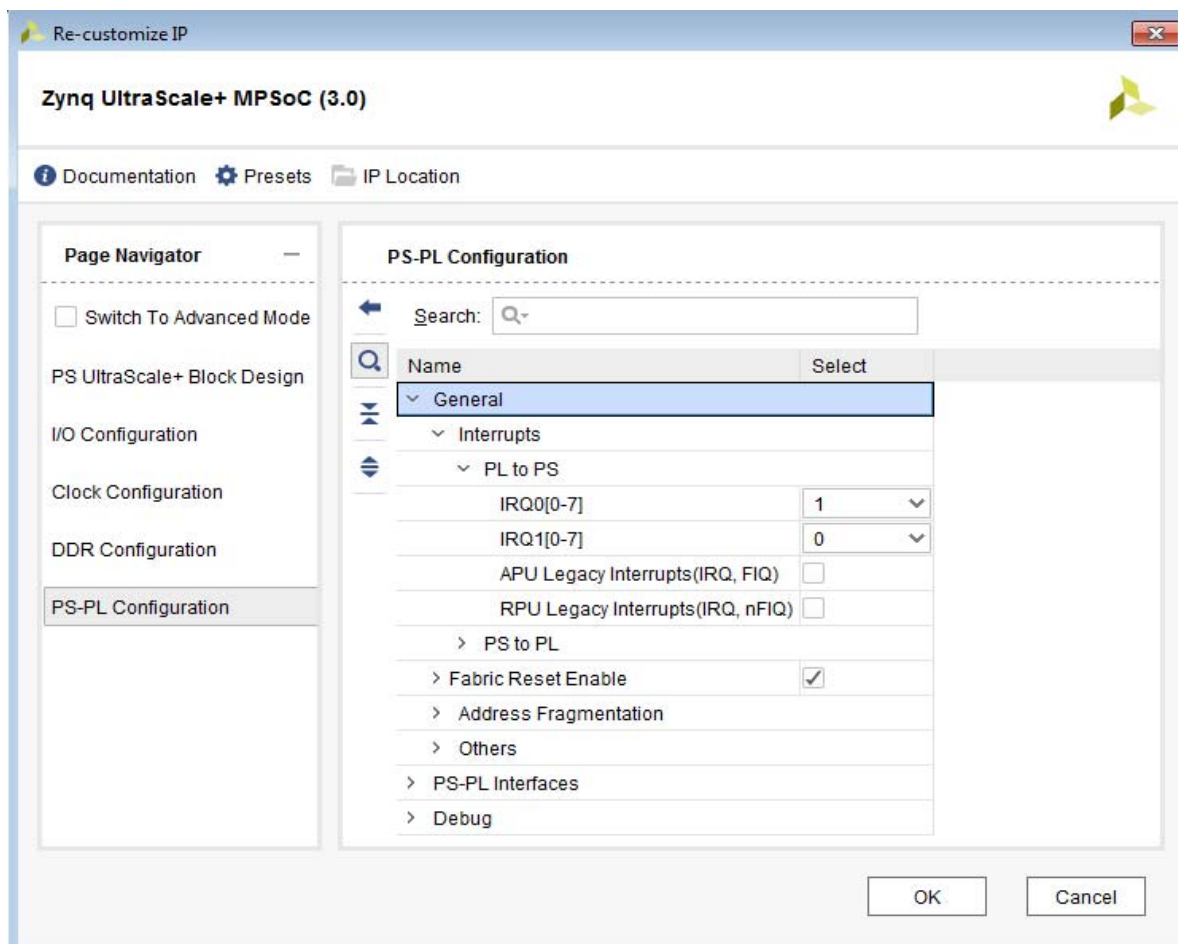

Figure 6-6: Selecting PL to PS Interrupt
1. Double-click the **Zynq UltraScale+ IP** Block, and select a PL-PS interrupt as shown in Figure 6-6 (Ignore and move to the next step, if this is selected by default).